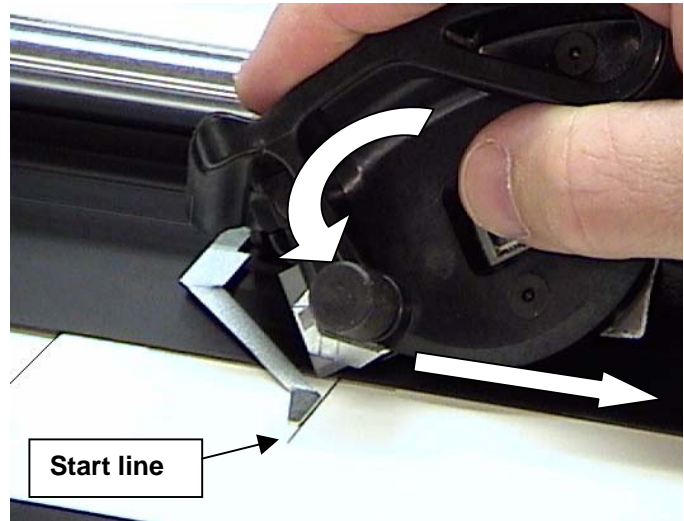

Figure 4
3. Align the cutting head and gauge to the start of cut pencil line, and pivot the blade through the mat. (Figure 4)